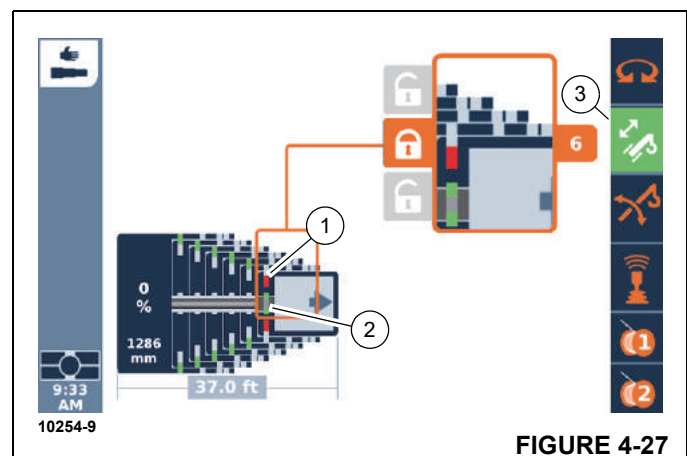

FIGURE 4-27
- Telescoping mechanism enabled – symbol (3, Figure 4-27) green
- Telescoping cylinder locked – symbol (2) green
- Telescopic section unlocked – symbol (1) red